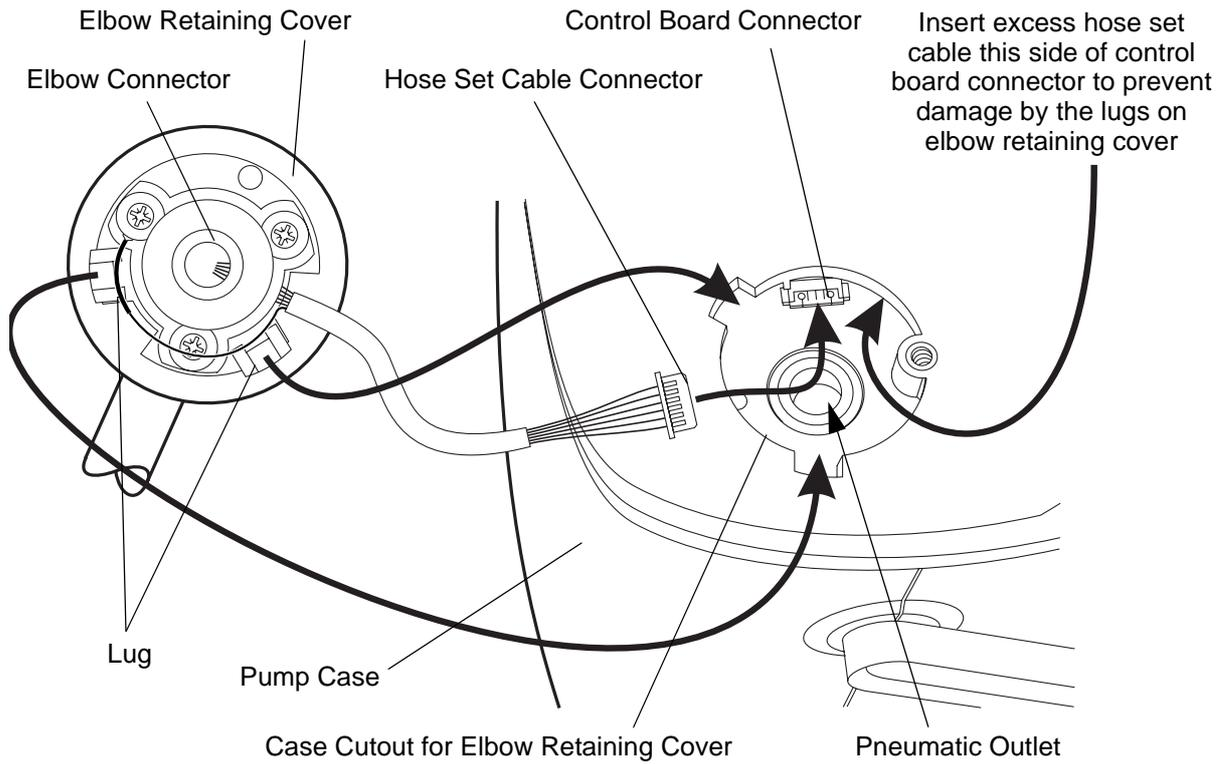

Figure 37 - Installing the Hose Set Connectors
- 8.5 Disconnect the hose set cable connector from the 6-way connector on the control board assembly in the pump (Refer to Figure 37), and remove the hose set assembly from the pump.
- 9.4 Carefully insert the excess hose set cable inside the pump case, between the control board connector and the threaded pillar (Refer to Figure 37).
Note: *Make sure the two lugs on the elbow retaining cover are aligned with the correct slots in the cutout in the pump case (Refer to Figure 37).*